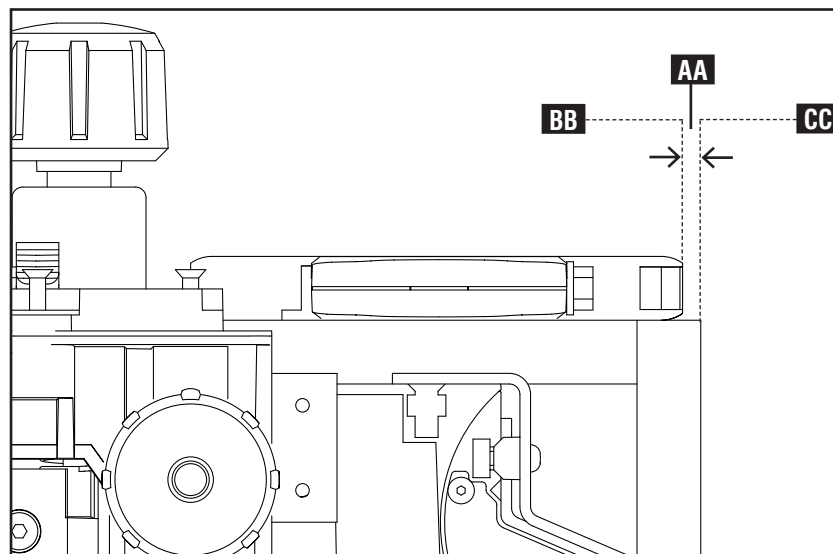

Fig. E24
**NOTE:** In Fig. E24, (BB) is the front edge of the fingers and (CC) is the front edge of the vertical board.
**TO FIX:** Loosen lock nut (Y) Fig. E25 and turn screw (Z) clockwise to bring template forward and fix the gap (AA) Fig. E24.